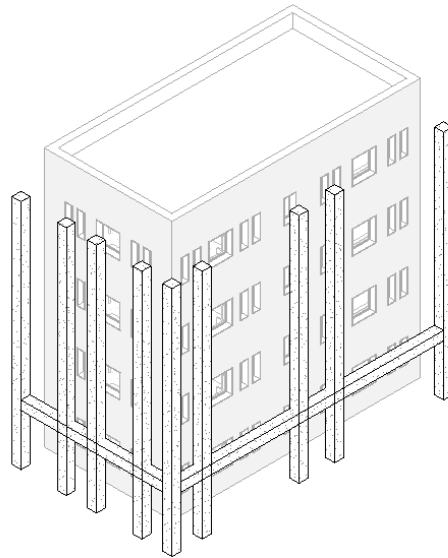

Figure 16-65 *The 3D view of the added structural elements*
23. Right-click on the **ViewCube** tool; a shortcut menu is displayed. Choose **Orient to a Direction > Northeast Isometric** from the shortcut menu; the current view reorients toward the northeast isometric view, as shown in Figure 16-65.